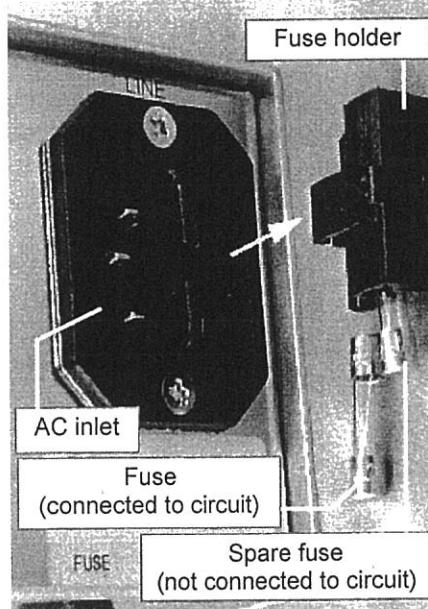

Fig.10-2
- (4) Before replacement, you must check that the new fuse has the same rating as the previous fuse. (Fig.10-2)
- (5) After replacement, return the fuse holder to its original location in the AC inlet.